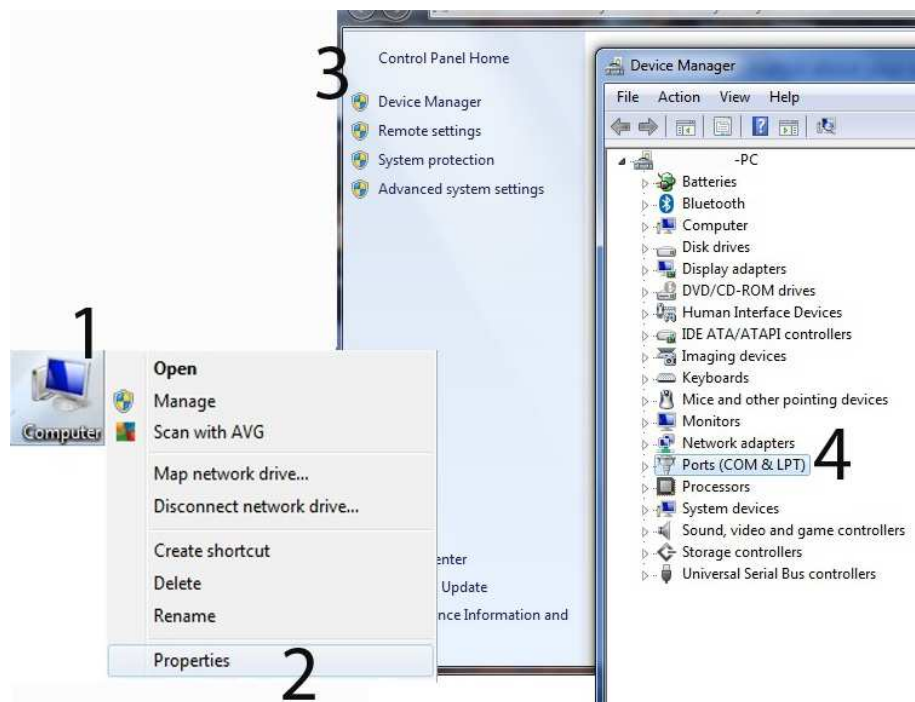

Figure 20. Finding the Watt Pilot controller virtual serial port.
1. Then controller is attached to computer, a new serial port ("COM" port) appears in the system. Figure 20 shows the way to the COM port selection. Firstly right click on "Computer", then "Properties", "Device Manager". Under "Ports (COM & LPT)" look for port named "Silicon Labs". Remember its number.